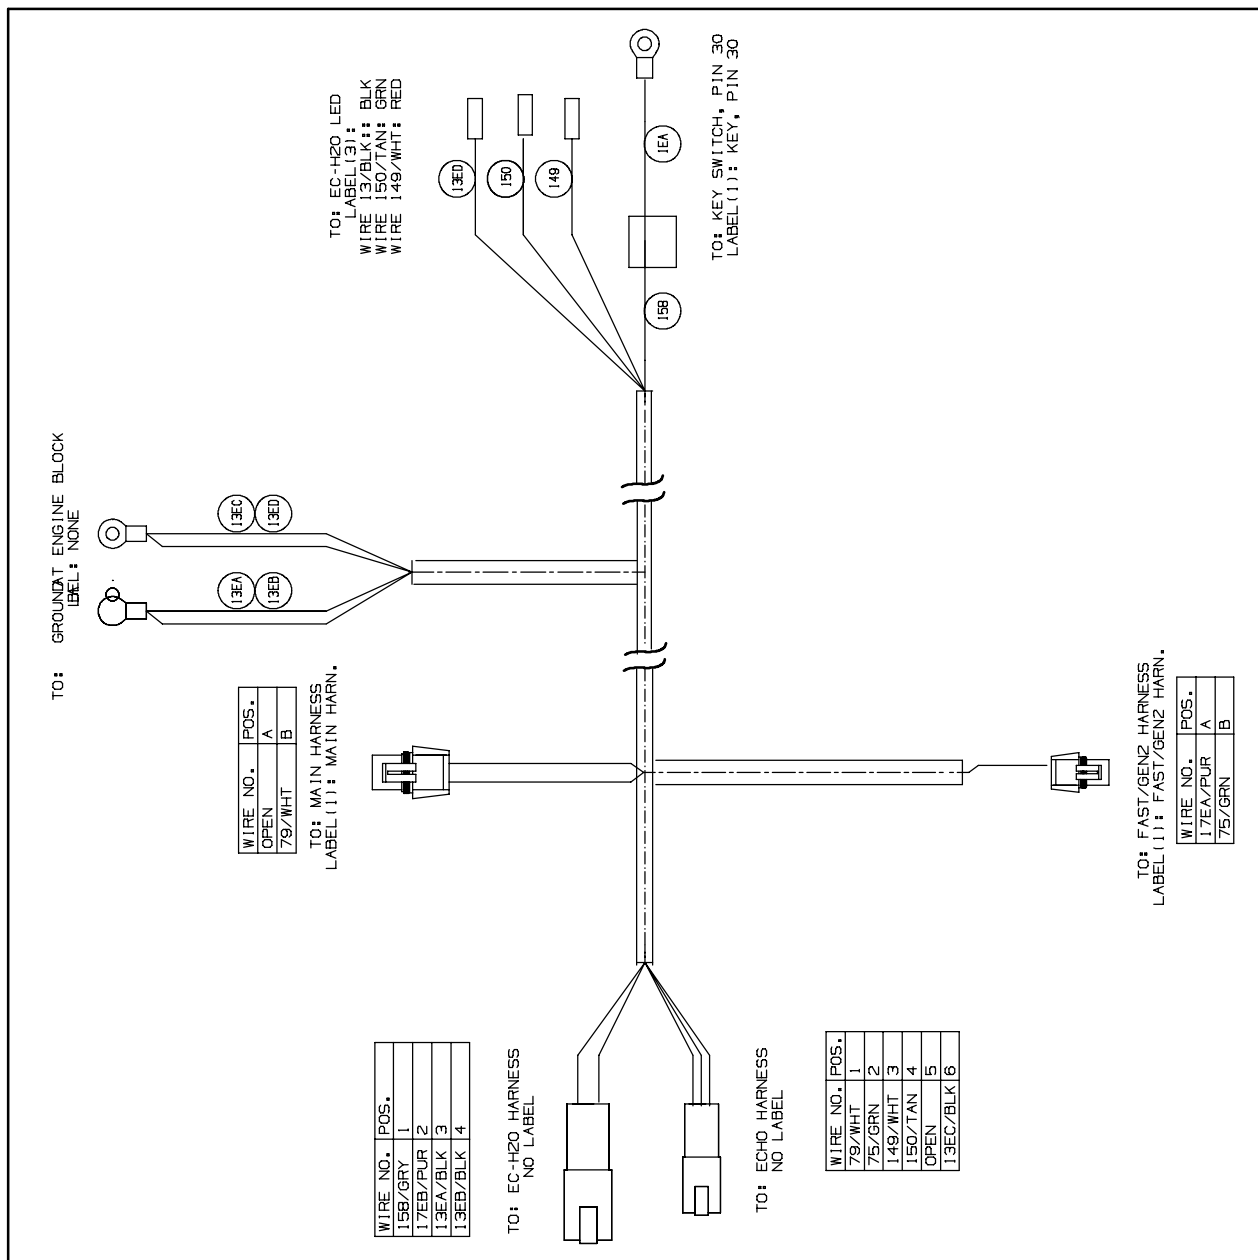

FIG. 6
23. Route the *ec-H20* harness ground lead to the engine ground and connect the ground lead to the engine ground. Refer to Fig. 6.
26. Slide the *ec-H20* harness ignition switch lead through the bottom of the boot and connect the ignition lead to the PIN 39 terminal on the ignition switch. Refer to Fig. 6.
28. Connect the *ec-H20* harness to the LED light. Refer to Fig. 6.
36. Connect the *ec-H20* harness to the *ec-H20* assembly. Refer to Fig. 6.